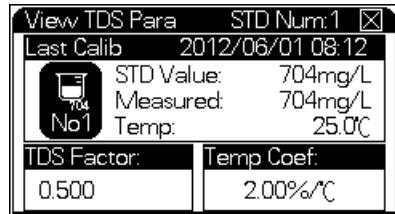

Figure 27 View TDS parameter
- 3 Press [**Enter**]. The display is shown is Figure 27.